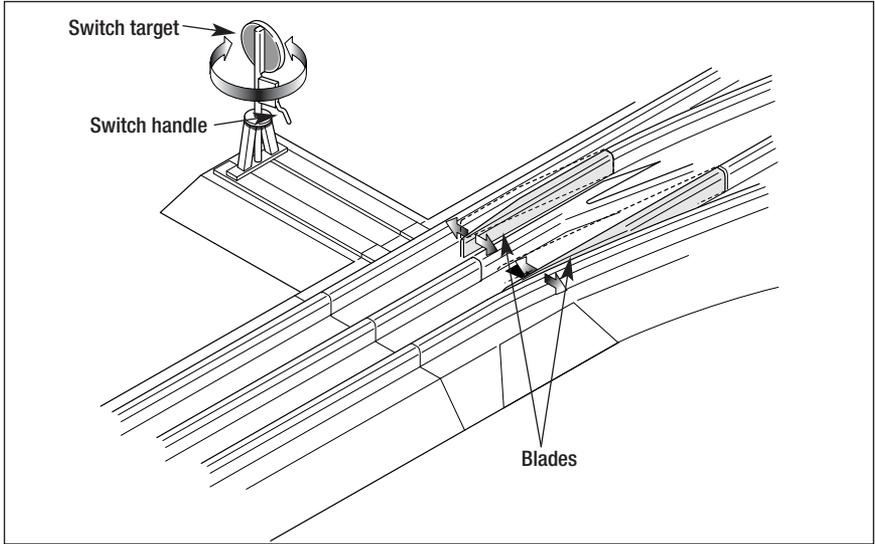

Figure 3. Throwing the switch
As illustrated in Figure 3, rotate the top of the switch stand to throw the switch. These switches are equipped with a non-derailing feature. The train's wheels automatically throw the blades to the proper position when the train travels toward the converging track. If you experience difficulties, simply throw the switch into the correct position for the train to travel using the switch stand control.
3. Remove the two screws that secure the switch stand roadbed section to the switch. Please note that these screws are located towards the inside edge of the switch stand roadbed section. Lift away the switch stand roadbed section being careful to prevent the switch target and handle from rotating more than a quarter turn. (The handle and target are labeled in Figure 3 on page 5.)
4. Slide the blades to the opposite position to access the slot at the end of the switch control arm. The blades are illustrated in Figure 3 on page 5.